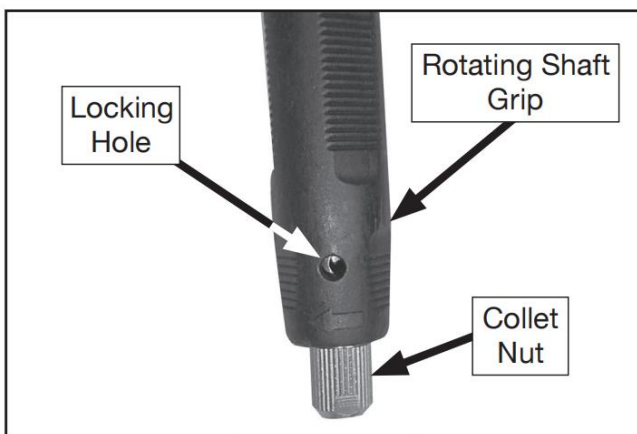

Figure 19. Location of locking holes in rotating
2. Rotate collet nut until locking holes in rotating shaft grip align (see **Figure 19**), then insert pin wrench.